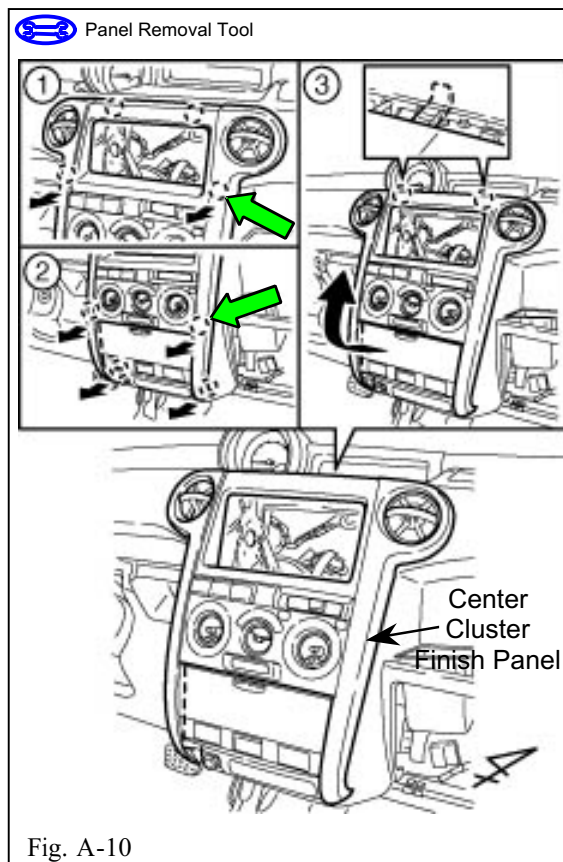

Fig. A-10
10. Remove the center cluster finish panel. (Fig. A-10)
- i. Slightly pull out the center cluster finish panel to loosen the four (4) upper clips securing the panel.
- iii. Disengage the two (2) hooks on top of the center cluster finish panel from the instrument panel.